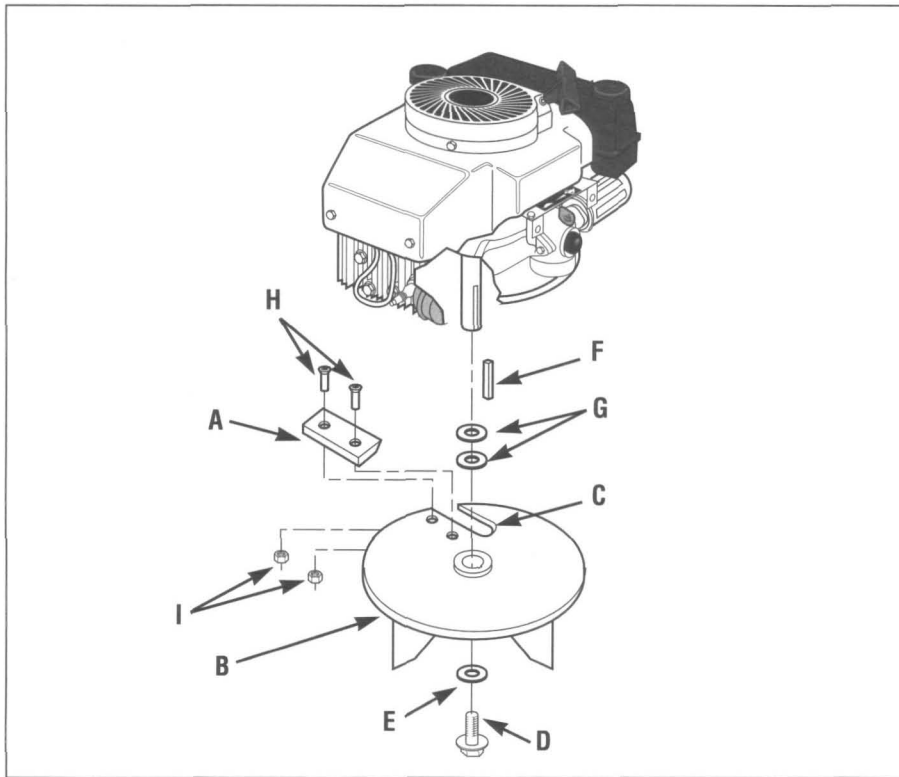

Figure 27: Chipper cutting blade removal/replacement.
Over time, the chipper cutting blade edge (A in Figure 27 on Page 27) will dull. Sharpen or replace the blade when the chipper no longer cuts efficiently.
- The chipper cutting blade (A in Figure 27 on Page 27) is mounted on the upper side of the flywheel assembly (B). **AVOID CONTACT WITH THE BLADE AS IT IS EXTREMELY SHARP!** To remove the blade, first remove the flywheel assembly as described below:
- Rotate the flywheel assembly until the cutout (C) in the flywheel assembly is located below the chipper chute. To prevent the flywheel assembly from turning, place a 1/2" or thicker wood dowel down the chipper chute through the cutout. See Figure 27.
- Using a box end 9/16" wrench, remove the bolt (D) and concave washer (E). Carefully slide the assembly off the crankshaft. Do not lose the key (F), or any shims (G). **NOTE:** Shims (if used) may be inside bore of flywheel assembly. See Figure 27.
- With a 3/16" hex key (Allen) wrench and 1/2" box wrench, remove the two locknuts (I) and screws (H) that secure the blade to flywheel assembly. If necessary, first clean out the socket holes in the screw heads with a sharp nail or awl. See Figure 27.